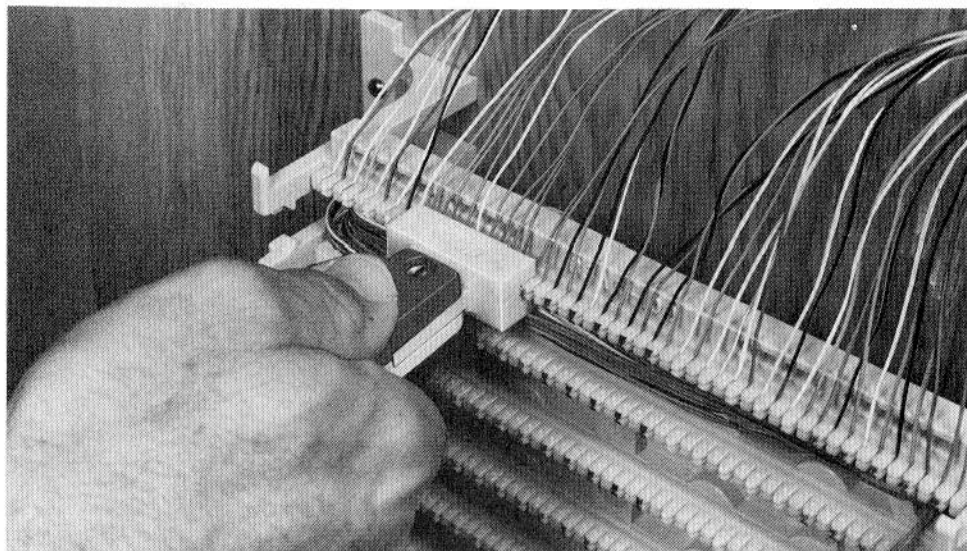

Fig. 18—Seating Conductors in Index Strip
3.12 After all pairs are placed in a pair of index strips adjacent to a cable space, the 788B2 or 788J1 insertion tool is used to seat the conductors in the index strip (Fig. 18). Start at the end of the index strip nearest the cable entrance and work across the block. Make sure conductors are bottomed in the index strip, especially when using larger gauge wire. Use only enough pressure to seat conductors. **Do not hammer on 788B2 insertion tool.**